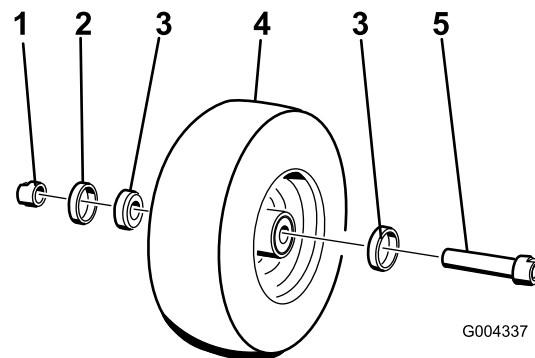

Figure 27
6. Remove **one** of the spacer nuts (with wrench flats) from the axle (Figure 27).
7. Remove the axle **without** removing the opposite spacer nut (Figure 27).
10. Insert the bearing and a new seal into the wheel (Figure 27).
12. Install the assembled nut and axle into the wheel on the side with the bearing and a new seal (Figure 27).
14. Install the second bearing and a new seal into the wheel (Figure 27).